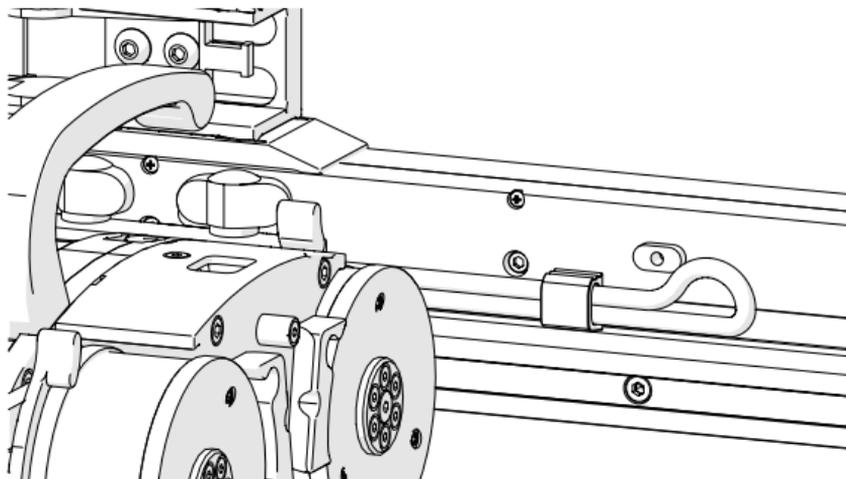

Fig. 36 - Route cable through the clip twice
4. The clips can accommodate the raster cable twice when necessary to route excess cabling (Fig. 36).